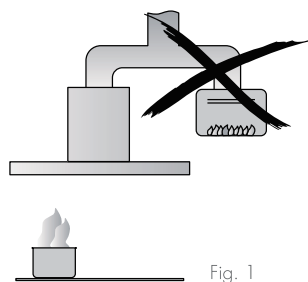

Fig. 1
- ⊘ The exhaust from the canopy rangehood must not be discharged into any heating flue, which may carry combustion products from other sources. (Fig 1)